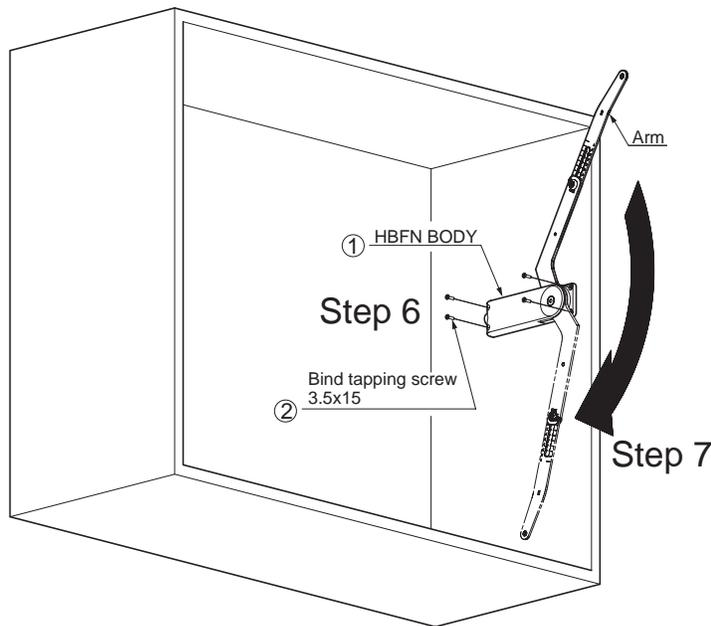

Fig. 7 Installation of side body
- Step 6. Set the unit body (1) (or 2) with the arm length adjusted according to the door height into the specified position on the inside surface of the cabinet (as for the mounting dimensions refer to Fig. 3 & Table 2), and fix the unit body (1) (or 2) with the attached bind tapping screws 3.5x15 (3). (Fig. 7)
- Step 7. Pull down the arm to the arrow direction completely. (Fig. 7)